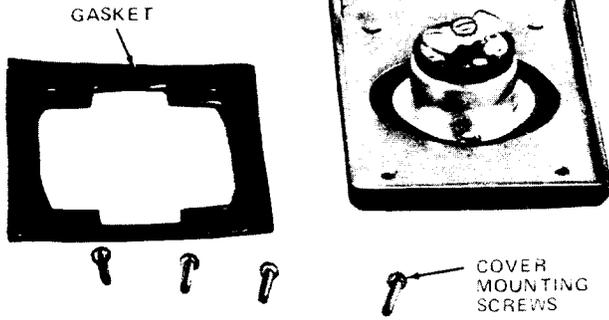

Fig. 14—B Weatherproof Male (or Female) Jack
2.13 B Weatherproof Male Jack: The B weatherproof male jack (Fig. 14 and 15) mounts in the B outlet box on the recreational vehicle, houseboats, etc., and receives the female plug of the B weatherproof cord to provide telephone service to recreational vehicles. The jack has a spring-loaded hinged cover to make it weatherproof when not in use. Three screw terminals stamped R, T, and GR on the rear of jack provide connection to ring, tip, and ground.
2.14 B Weatherproof Female Jack: The B weatherproof female jack (Fig. 14 and 16) looks the same as the male jack except for the pins, and mounts in the B outlet box *at the trailer service pad or on the dock at the marina*. It receives the male plug of the B or C weatherproof cord.
- Fig. 14, 15, and 16—B Weatherproof Jack